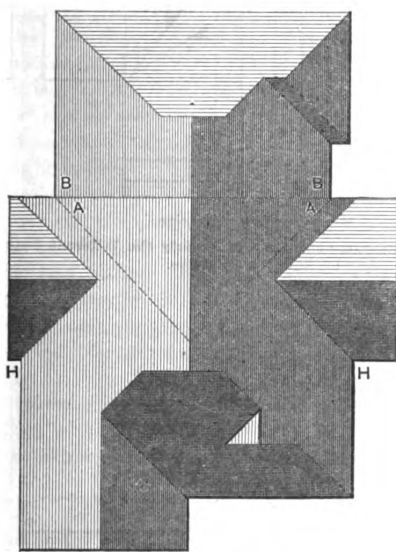

Fig. 1.—Plan View.
From A. D. E., *Branchville, S. C.*—I have been a devoted reader of *Carpentry and Building* for several years, having received great benefit from it, for which I extend thanks to the publisher and the many contributors. Among other matters I notice considerable has been said in regard to laying out an ellipse. I have a contrivance which is a little different from anything I have yet seen in the paper, and which I find is both correct and simple. It can be made any size desired, the one I have being provided with cross arms of 2 feet length, while the tram is 3 feet. It is made of  $\frac{1}{2}$  x 2 inch hard wood. The tram is  $\frac{1}{2}$  x 1 inch. Referring to Fig. 1 of the sketches, the dis-
*Laying Out an Ellipse.—Fig. 1.—Tram for Drawing an Ellipse,*
From N. W. H., *Los Angeles, Cal.*—I have been much pleased with the interest taken in the roof plan which I submitted for the consideration of the readers of *Carpentry and Building*, and which was published in the issue for October, 1891. The method suggested by "J. N. H." of Texas is a very good one and is a natural result of the ground plan. "G. L. McM." of Tacoma suggests a method that is practically the same, and I think would produce a better looking roof than that of "J. N. H." It is possible that some of the readers of *Carpentry and Building* would like to know what kind of a roof I have made for the plan shown in the October issue. For the benefit of such I submit the accompanying sketches. The dotted lines shown on the plan view, Fig. 1, indicate where, under ordinary conditions, there would be valleys, but in